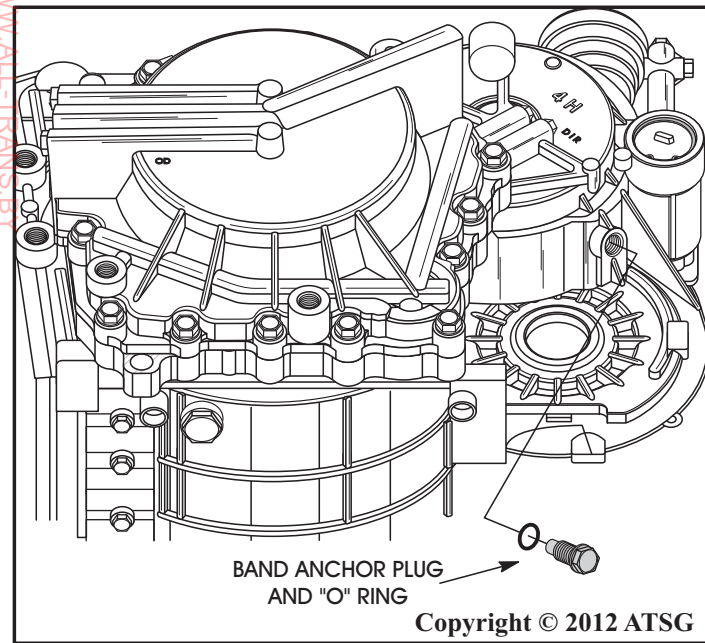

Figure 277
78. Install new "O" ring seal on the reduction band anchor plug and install band anchor plug into the case, as shown in Figure 277.